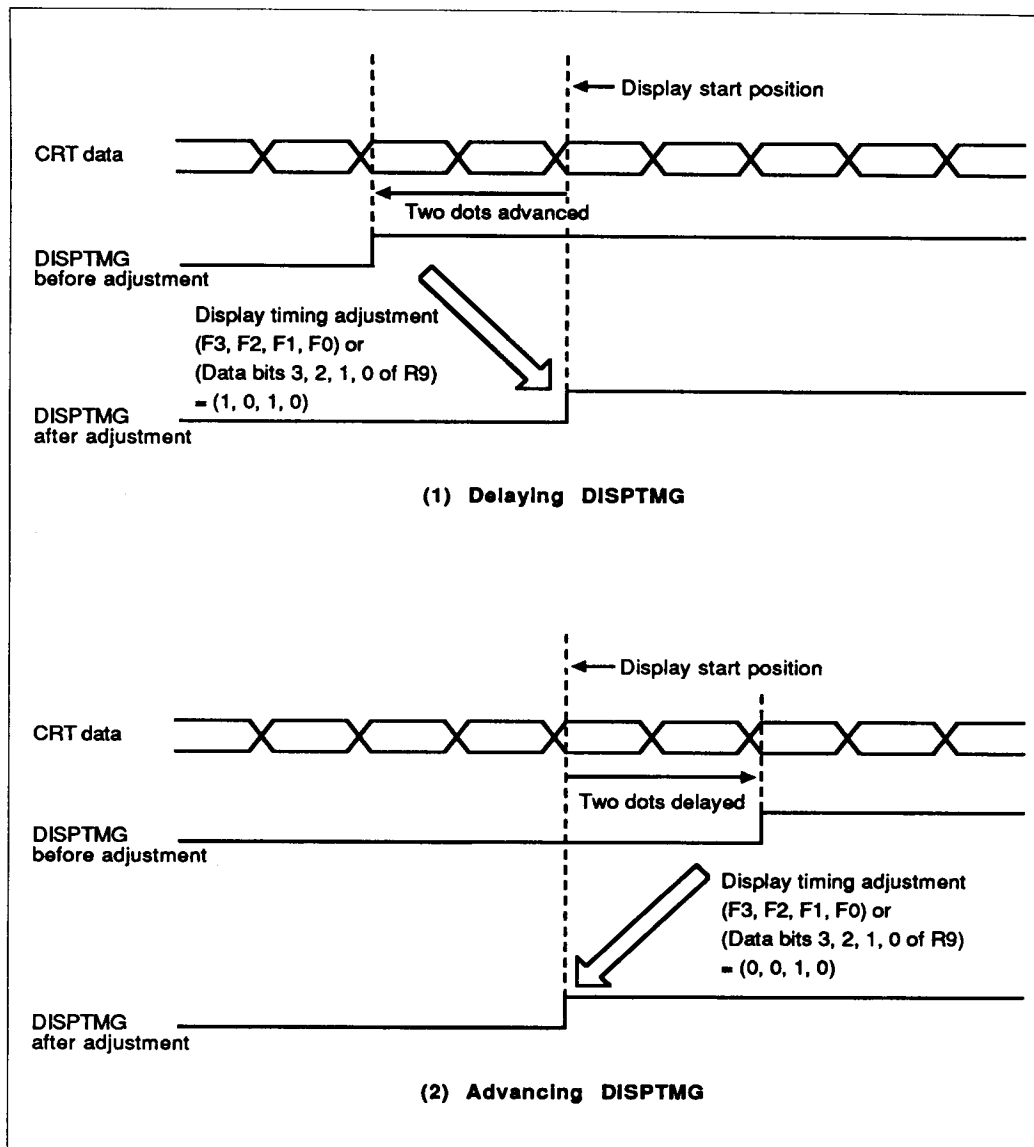

Figure 16 Adjustment of Display Timing Signal
Examples of adjusting the display timing signal are shown in figure 16. Since the signal is two dots ahead of the display start position in case (1), F3, F2, F1, and F0 or data bits 3, 2, 1, and 0 of R9 should be set to (1, 0, 1, 0) to delay the signal by two dots. Conversely, since the signal is two dots behind the display start position in case (2), they should be set to (0, 0, 1, 0) to advance the signal by two dots. If there is no need to adjust the signal, a setting of either (0, 0, 0, 0) or (1, 0, 0, 0) will do.